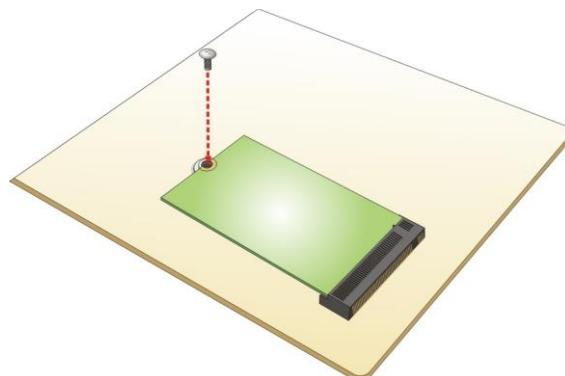

Figure 4-2: Securing the M.2 Module
Step 4: Secure the M.2 module with the previously removed retention screw (Figure 4-2).